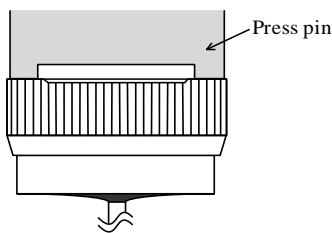

Figure 9 Recommended Press Pin Form
- Recommended press pin form: See Figure 9